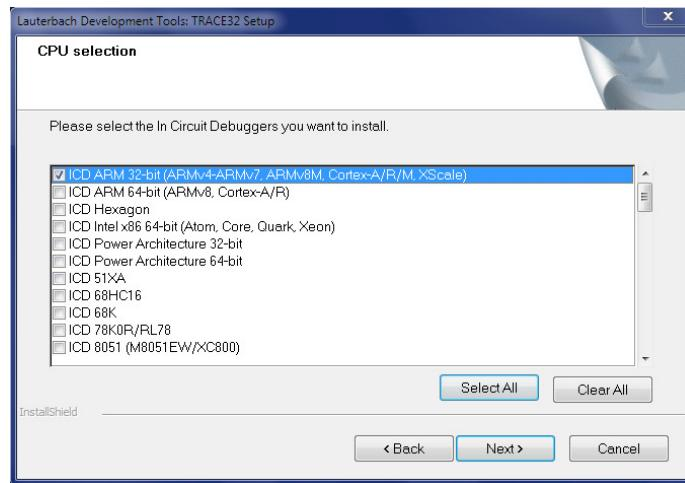

Figure 5.29: **CPU selection** page
9. On the **CPU selection** page, select **ICD ARM 32-bit** (see Figure 5.29 on the next page).